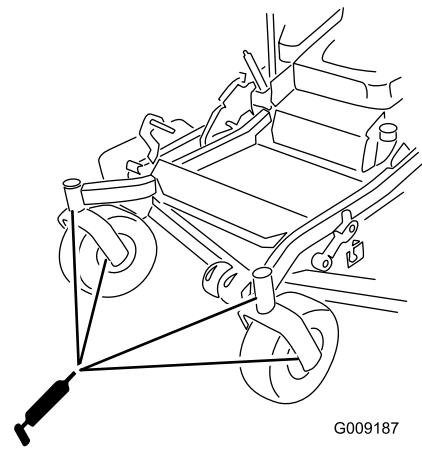

Figure 47
9. Remove the grease zerk in the hole. Install the hex plug and dust cap (Figure 47).